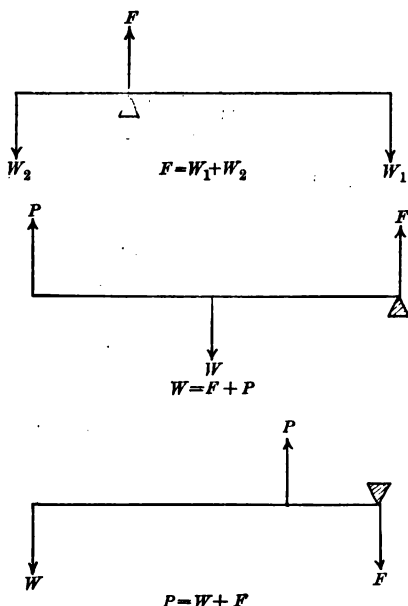

FIG. 15. — Force exerted by fulcrum of lever.
22. Force at the fulcrum. It must not be forgotten that in examples of the lever, the fulcrum itself exerts a force, that is, a push or a pull. When the fulcrum is between the two weights, it evidently has to push up an amount equal to the sum of the weights; that is (Fig. 15, top), $F = W_1 + W_2$.
When the fulcrum is at one end of the lever, and the pull at the other end, it is clear that the fulcrum must exert an upward push, which must be such that it and the upward pull (P) are together equal to the weight. That is (Fig. 15, middle), $W = F + P$.
When the fulcrum is at one end and the weight at the other end, it will be readily seen that the fulcrum has to push downward and that the upward pull (P) must equal the sum of this downward push at F and the weight W . That is (Fig. 15, bottom), $P = W + F$. In short, it will be seen that in all these cases *the sum of the forces pulling up must equal the sum of the forces pulling down.*